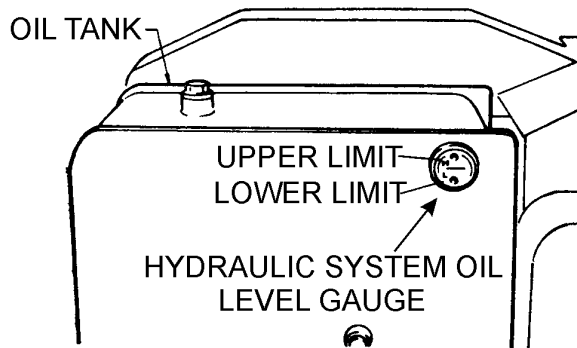

Figure 10. Hydraulic System Oil Level Gauge
1. Check the oil tank level gauge (Figure 10). Oil level should be at the middle indication of the gauge or higher. Fill as required